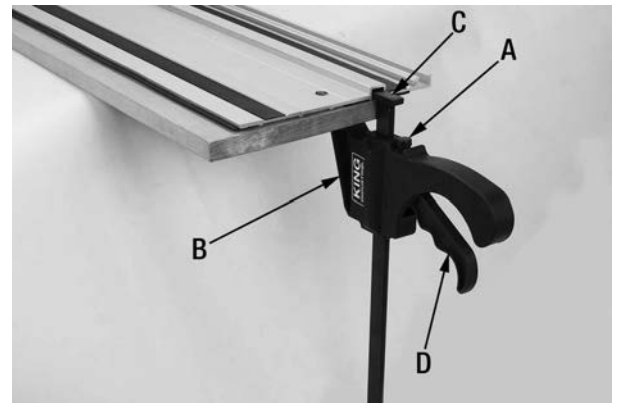

FIGURE 10
- Press the clamp release button (A) Fig.10 to open the clamp (B), slide the clamp straight bar (C) into the groove under the track as shown in Fig.10 and press the handle (D) to lock clamp in place.